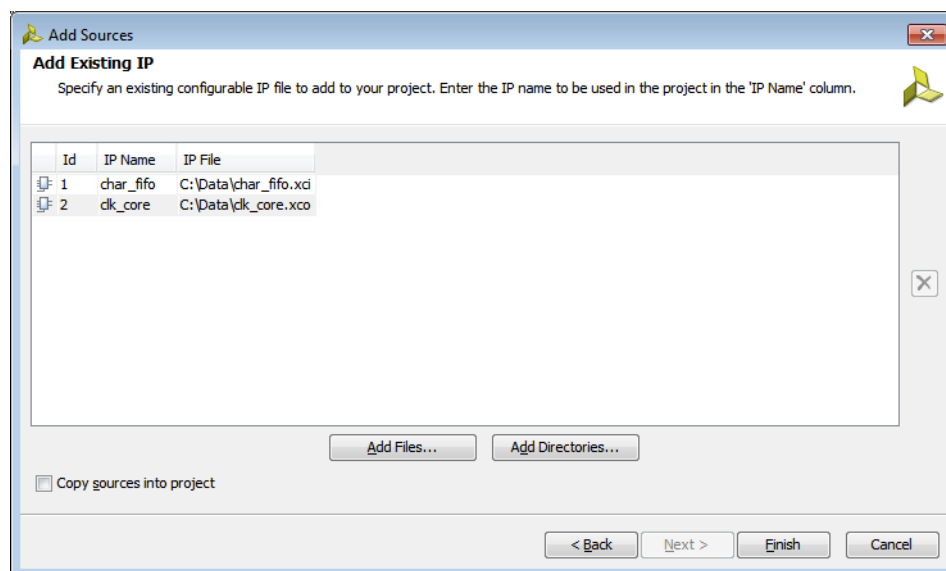

Figure 3-14: Add Sources Wizard—Add Existing IP Page
3. In the Add Existing IP page (Figure 3-14), set the following options, and click **Finish**.